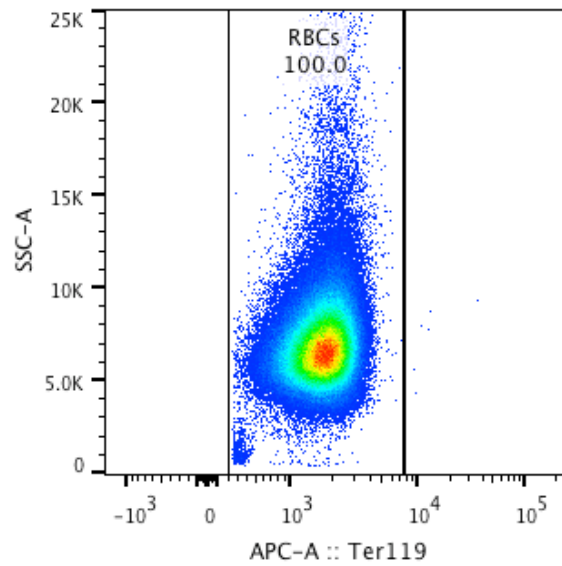

Figure 4: APC-Ter119 vs SSC-A
- X axis = APC-A Ter119; Y axis SSC-A (figure 4)